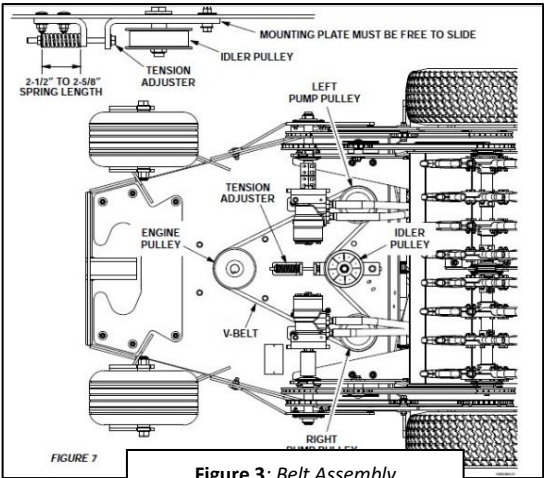

Figure 3: Belt Assembly
- o If tension is needed remove V-belt cover and turn adjuster screw to compress spring to a measure of 2-1/2" – 2-5/8" (**Figure 3**)